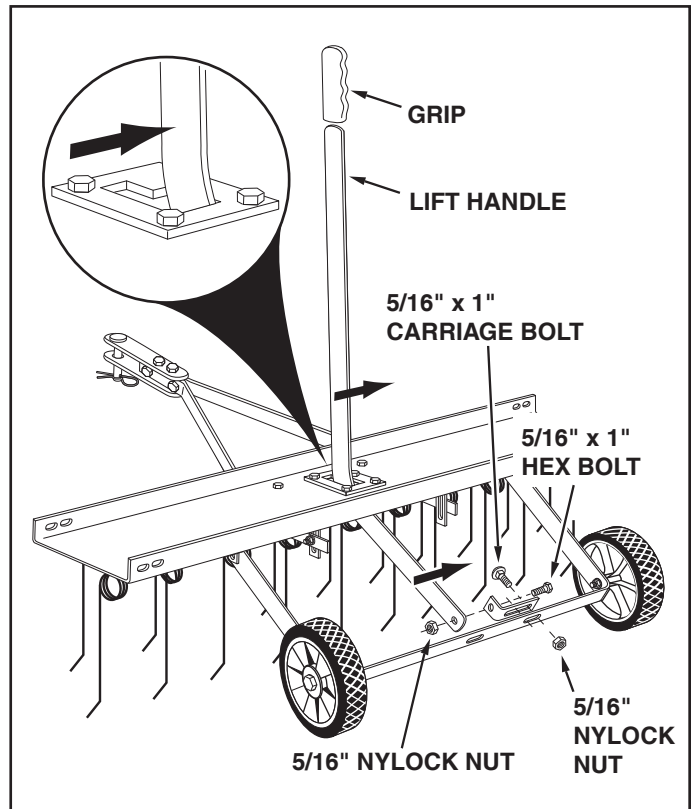

FIGURE 9
15. Assemble a hitch arm mount bracket to the axle bracket using two 5/16" x 1" carriage bolts, and 5/16" nylock nuts. **Do not tighten yet**. See figure 9.
16. Insert the lift handle down through the tine shield. Attach it to the just assembled hitch arm mount bracket using a 5/16" x 1" hex bolt and a 5/16" nylock nut. **Tighten**. See figure 9.
17. Position the hitch arm mount bracket so that there is side tension on the lift handle when it is locked in the up position. **Tighten** the nuts. See figure 9.
18. Assemble the grip onto the end of the lift handle. See figure 9.